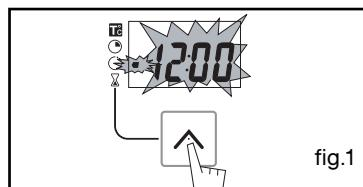

fig.1
The time display flashes to indicate that you can now adjust the setting (fig.1).
- Press the “ \wedge ” (fig.1) button until the timer symbol begins to flash